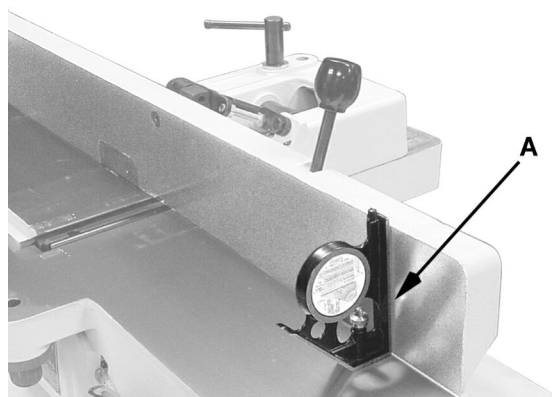

Figure 8-4
5. Place an angle measuring device on the table and against the fence to confirm a 90° setting (A, Fig. 8-4).
6. If the fence is not square to the table, release the lock handle (J), loosen the hex nut (F), and turn the stop bolt (E) until the fence is square to the table.
7. Tighten the lock nut (F) to retain the setting. Tighten the lock handle (J).